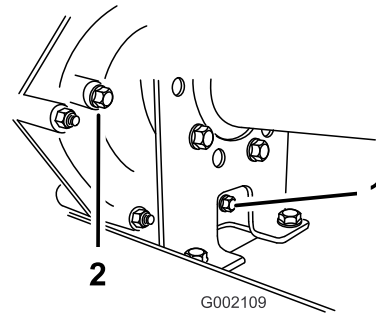
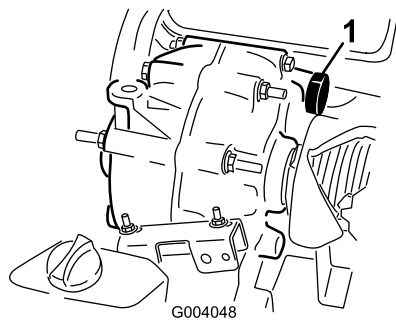

Figure 65
Figure 66
2. Wipe the area around the fill and drain plugs clean with a rag (Figure 65).
4. Remove the fill plug by rotating it counterclockwise (Figure 65).
5. Remove the drain plug by rotating it counterclockwise (Figure 65).
6. Install and tighten the drain plug and gasket into the drain-plug hole of the transmission (Figure 65).
7. Fill the reservoir (Figure 66) through the fill-plug hole with of the specified oil or until the oil level in the transmission is even with the bottom of the threads. (Figure 65).
8. Install and tighten the fill plug and gasket into the fill-plug hole of the transmission (Figure 65).
10. Check the oil level and add more oil if the level is below the threads of the fill-plug hole (Figure 65).